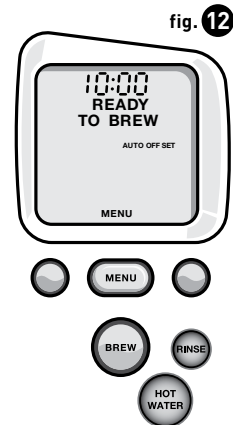

fig. 12
- After setting the desired Auto Off time, press the MENU Button five times to scroll through the remaining programming options and exit the programming mode. "AUTO OFF SET" (fig. 12) will now be displayed to indicate that it has been set.